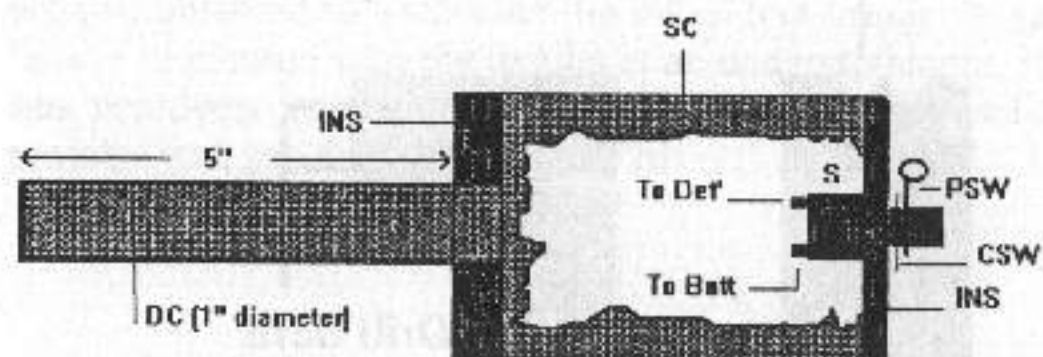

Figure 6: Soup Can Warhead Schematic #1.
- STH = Soup Can Warhead: (See Figure 6 for construction details.)